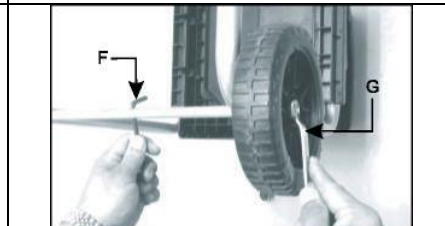

Fig. 3d
Using the supplied hex wrench (F), fix the wheel axle and at the same time firmly tighten the nut by using a wrench (not supplied) (G). (Fig. 3D)